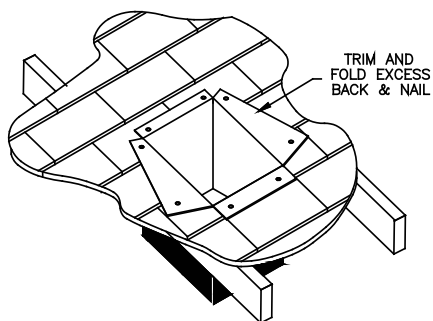

Figure 32
7. If the Support Box protrudes the roofline use tin snips to cut from the top corners down to the roof line, and fold the resulting flap over the roof sheathing **(Figure 32)**. Before nailing it to the roof, run a bead of non-hardening sealant around the outside top edges of the Support Box so as to make a seal between the box and the roof. Clean out any combustible material or debris from inside the Support Box.
9. Connect the necessary amount of Pipe Sections to reach the stove and extend at least 12-inches above the roof before attaching Termination Cap **(Figure 32)**.